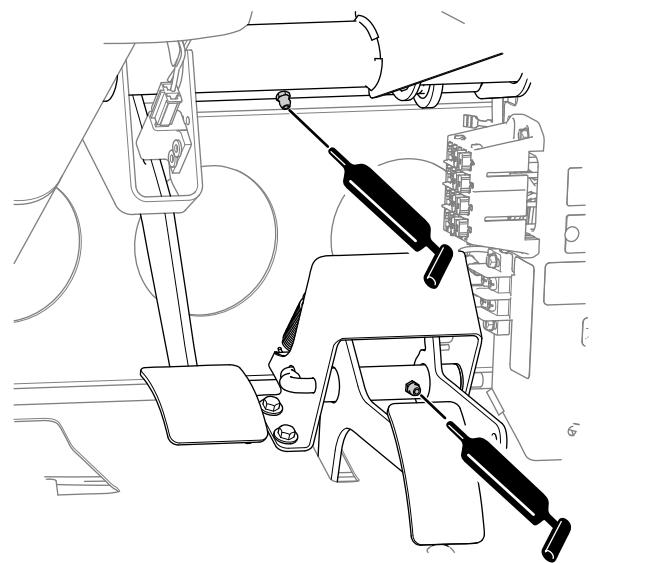

Figure 38
- **Brake (1);** refer to Figure 38
- **Throttle (1);** refer to Figure 38